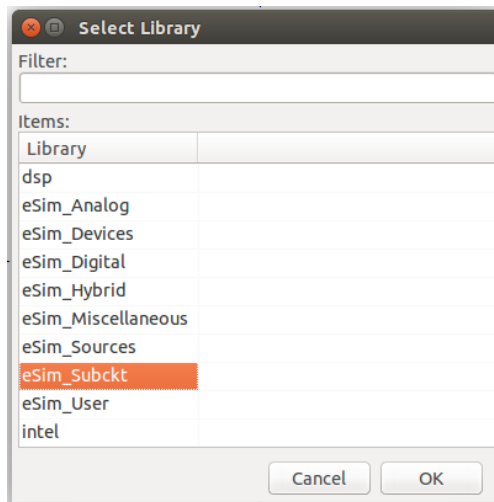

Figure 8.6: Selecting Working Library
2. Select the working library as eSim.Subckt as shown in Fig. 8.6